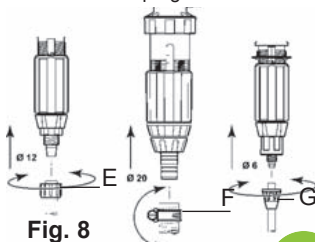

Fig. 8
- Unscrew the nut (Fig. 8-E) at the bottom of the injection assembly and put it onto the tube.
- Unscrew the nut (Fig. 8-G) at the bottom of the injection assembly and put it onto the tube.
- Loose the clamp (Fig. 8-F) holding the suction hose by means of a screwdriver.